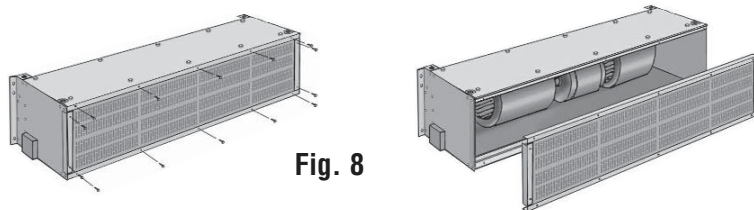

Fig. 8
1. Remove the screws that hold the intake screen in place. Remove the grill and applicable filter(s). (See Fig. 8)